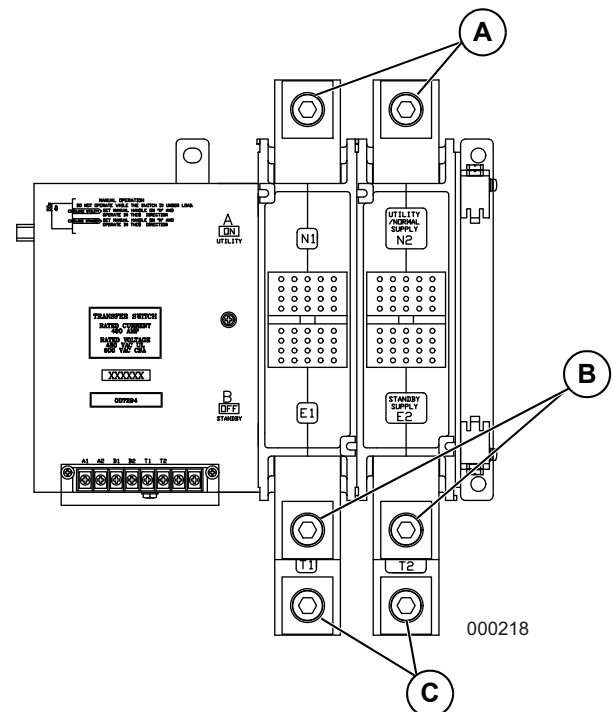

Figure 2-1. Typical Single-Phase ATS Transfer Mechanism
These switches (Figure 2-1) are used with a single-phase system, when the single-phase NEUTRAL line is to be connected to a neutral lug and is not to be switched.
1. Connect utility (normal) power source cables to utility service disconnect circuit breaker if equipped, or N1 and N2 lugs of the transfer switch. See Figure 2-1.